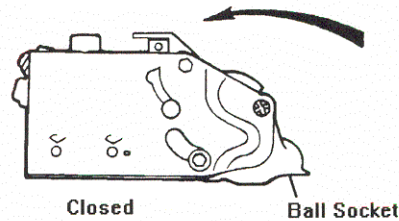

Figure P6: Surge Brake Actuator & Coupling Assembly
For boat models with the Surge Brake Actuator and Coupling Assembly shown in Figure P6, lift the release handle to unlock the coupler. An optional locking pin or a padlock may be inserted in the locking lever hole to secure the trailer. Refer to Section P-3 Operation for additional information on couplers and hitching to the tow vehicle.
2. Hold release handle in open position. See Figure P6.